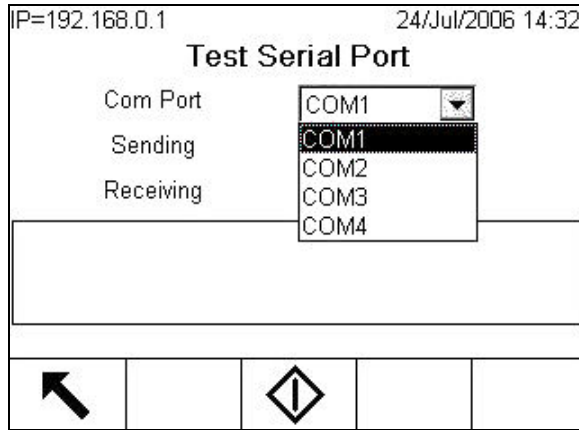

Figure 3-25: Serial Test Setup Screen
- Serial Test—Enables testing of the transmit and receive functions on the serial (COM) ports. Select the COM port to be tested using the selection box for Com Port (Figure 3-25). Only those ports installed are available for testing.